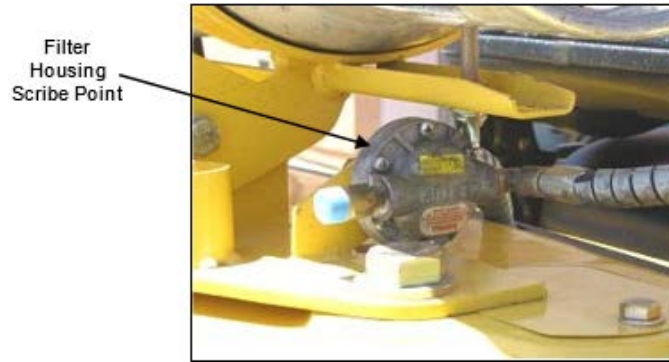

Figure 4-2. Scribe Point for Inline LP Fuel Filter
3. Scribe a line across the filter housing covers (Figure 4-2), which will be used for alignment purposes when re-installing the filter cover.